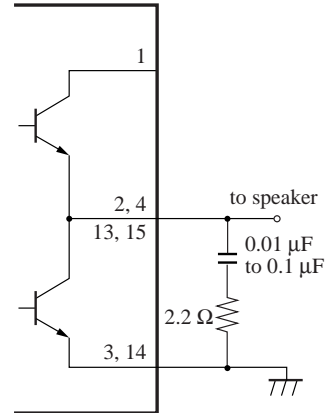

Figure 2
- (1) In order to increase the oscillation allowance, it is unnecessary to use a capacitor and a resistor between each output terminal and GND. However, when inserting the capacitor for countermeasures against output line noise between the output terminal and GND, insert a resistor of approx. $2.2\ \Omega$ in series as shown in Figure 2. The oscillation may occur if only capacitor is used. Use it after giving a sufficient evaluation.
- (2) The use of polyester film capacitor having a little fluctuation with temperature and frequency is recommended as the capacitor for countermeasures against output line noise.